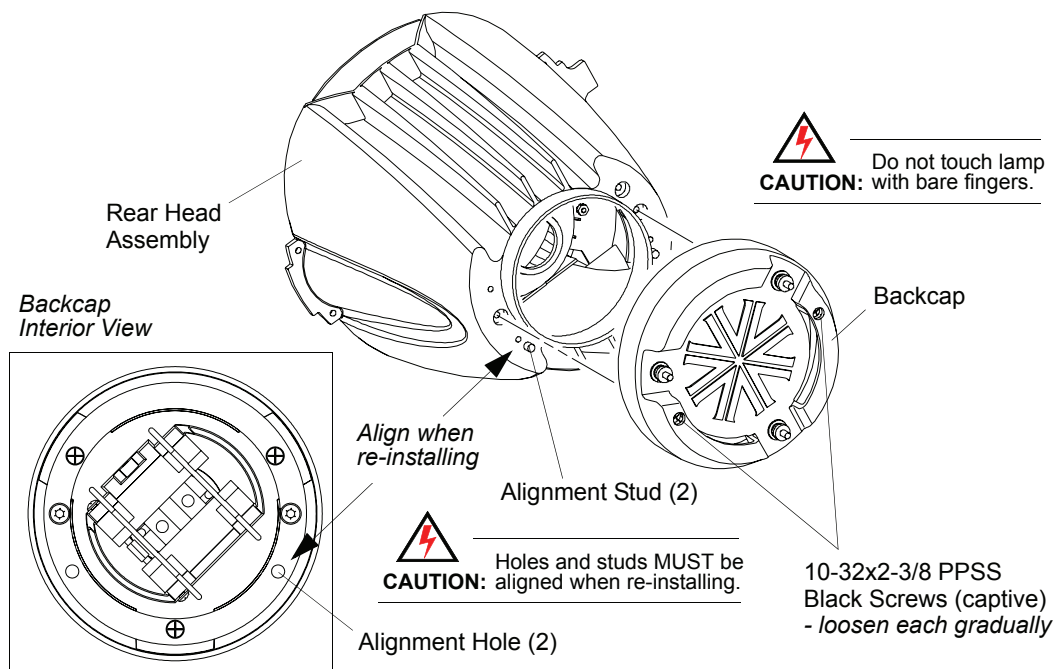

Figure 2-4: Removing Incandescent Backcap
- Step 2. At backcap, gradually loosen two 10-32x2-3/8" PPSS black screws (Figure 2-4) a few turns at a time until backcap is free. (Screws must be alternately loosened to prevent one side from locking up.)
- Step 7. Re-install backcap, ensuring that alignment studs and holes are aligned (Figure 2-4).